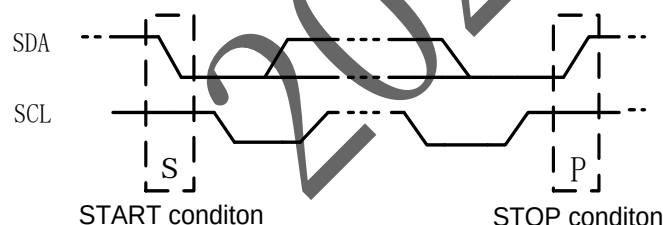

Figure 9. Definition of START and STOP condition
Both data and clock lines remain HIGH when the bus is not busy. A HIGH-to-LOW transition of the data line while the clock is HIGH is defined as the START condition (S). A LOW-to-HIGH transition of the data line while the clock is HIGH is defined as the STOP condition (P) (see Figure 9).